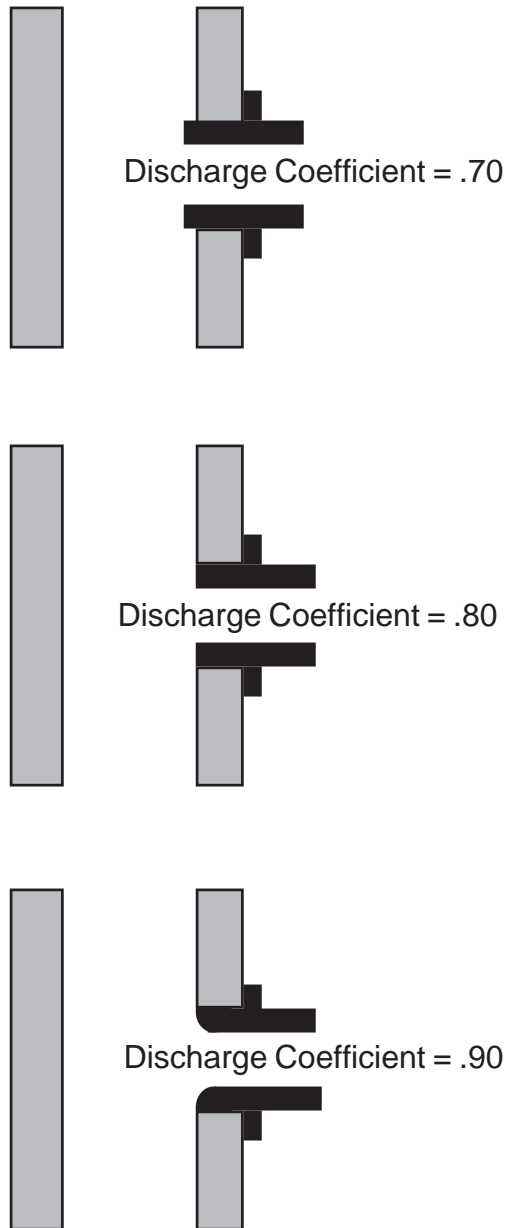

Figure 2
- 6- Record the inside diameter of the nozzle which will be flowed; generally one of the 2-1/2" nozzles. Insert your hand into the nozzle opening and feel the entrance shoulder to determine the nozzle coefficient. (See Figure 2)